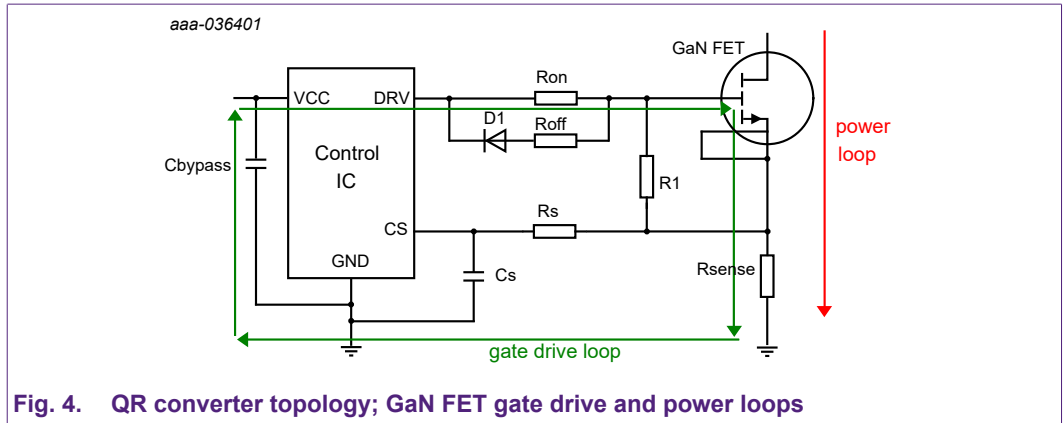

Fig. 4. QR converter topology; GaN FET gate drive and power loops
For Quasi-Resonant (QR) and other similar topologies where the controller integrates the gate drive, then the gate drive loop and the power loop are coupled together through  $R_{sense}$  and the KS pin is directly connected to the Source pin; see Fig. 4.